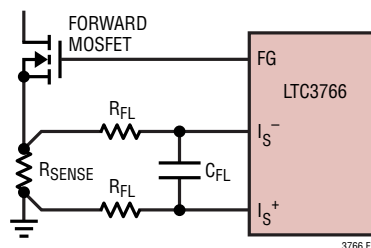

Figure 11. Using a Current Sense Resistor
When using a current sense resistor, the  $I_S^+$  and  $I_S^-$  pins operate differentially and the maximum peak current threshold is approximately 75mV. Normally, the current sense resistor is placed in the source of the forward MOSFET, as shown in Figure 11. Depending on PCB layout and the shielding of the traces going to the  $I_S^+$  and  $I_S^-$  pins, it is sometimes necessary to add a small amount of filtering as shown in Figure 11. Typically, values of  $R_{FL} = 100\Omega$  and  $C_{FL} = 200\text{pF}$  to  $1\text{nF}$  will provide adequate filtering of noise pickup without substantially affecting the current loop response.
1. The accuracy of the current sense resistor and/or current sense transformer. For resistor sensing, the accuracy of the current sense resistor is normally 1%. For sense resistors less than  $2m\Omega$ , however, the parasitic inductance can cause a significant error in the sensed current. This error can be eliminated by adding an RC filter as shown in Figure 11.